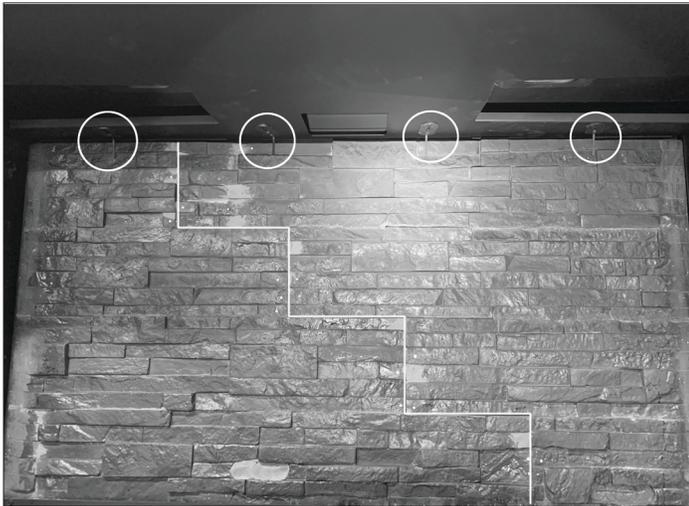

Figure 8.4, Back Refractory Panel Installed
1. Install back refractory panels. Secure with panel clips previously bent. See Figure 8.4.